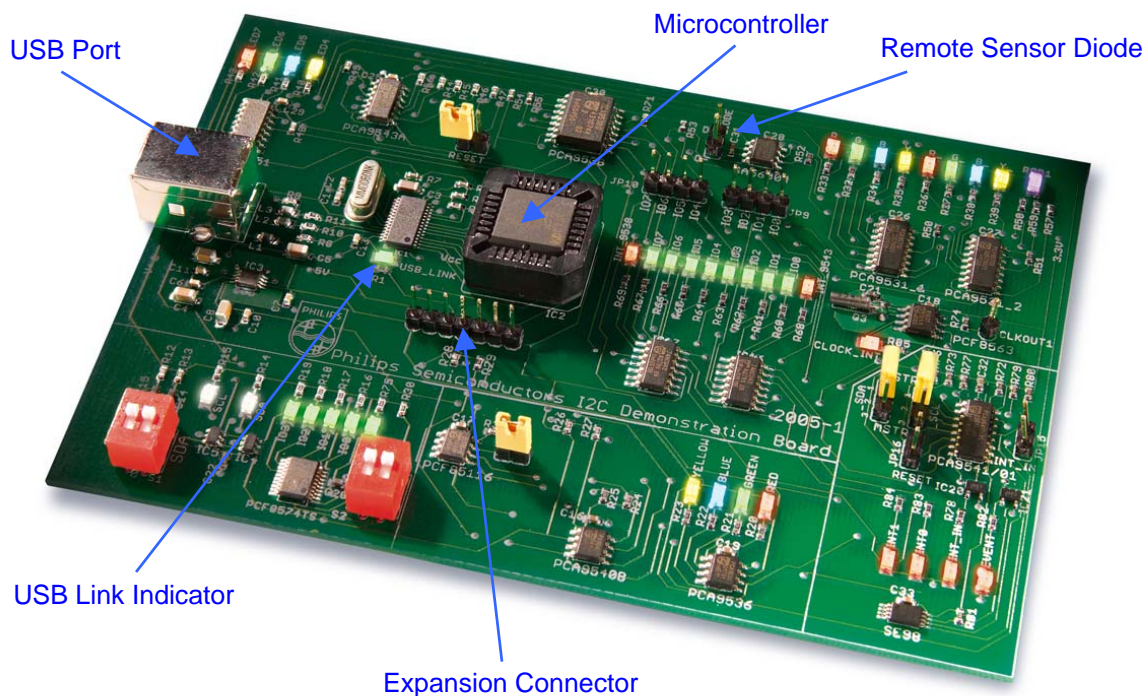

Fig 2. I2C Demonstration Board 2005-1
2. Plug the remote sensor diode into the Demonstration Board (see Figure 2).
Figure 2 shows the following items on the hardware: